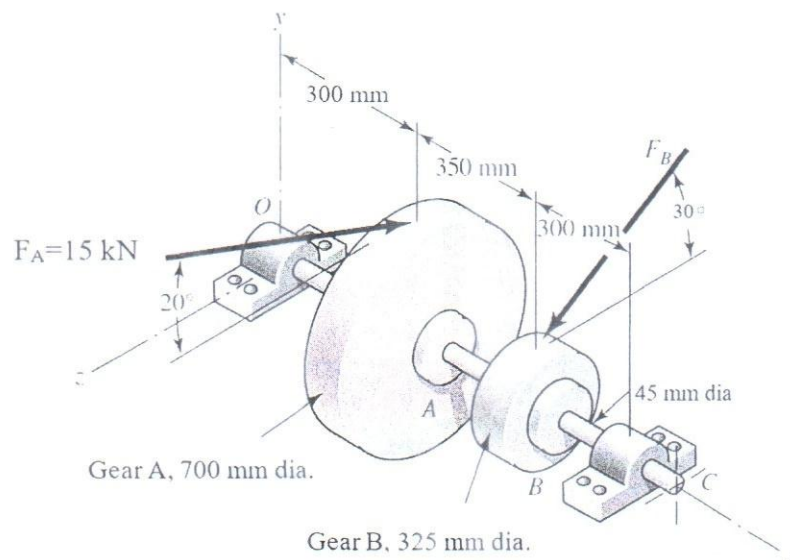

Figure 1
- 1 (a) A gear reduction unit uses the countershaft shown in the **Figure 1**. Gear *A* receives power from another gear with the transmitted force F_A applied as shown in figure. The power is transmitted through the shaft and delivered through gear *B* through a transmitted force F_B at the pressure angle shown in figure. (25)